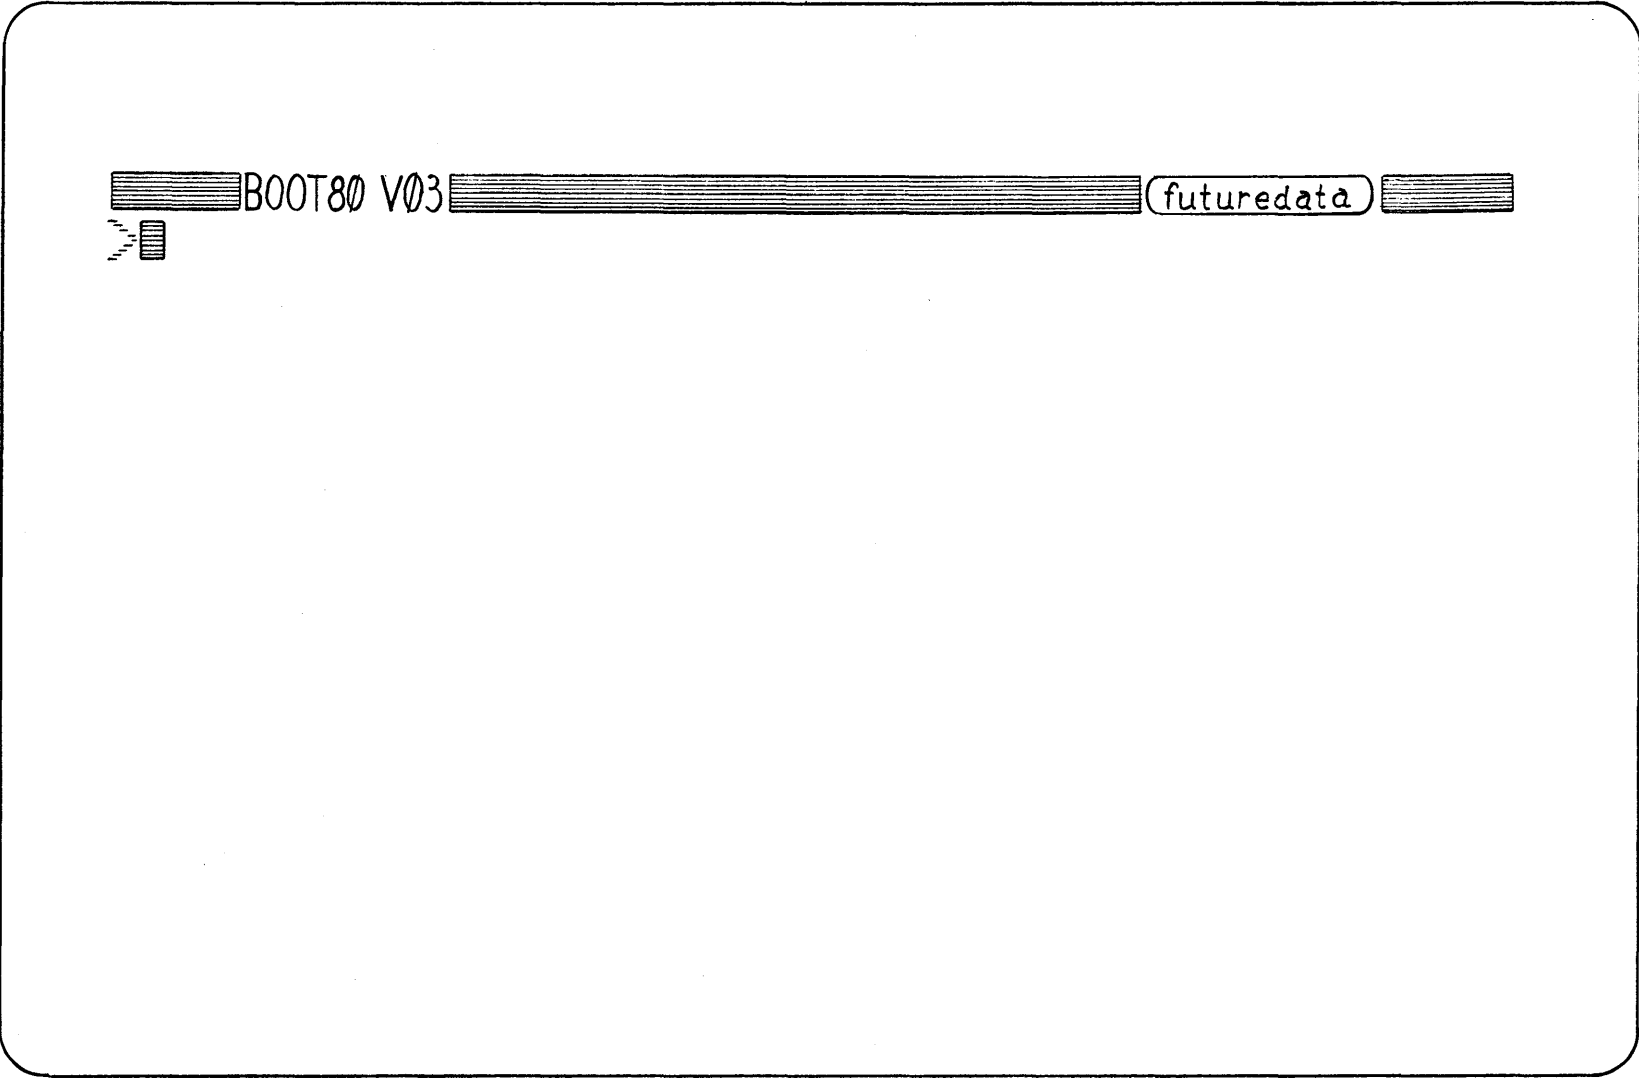

Figure 1-11. Boot Message
- (1) ON indicator
- (2) RUN indicator
- f. Check the CRT screen. Boot message, and blinking cursor must appear at the top of the screen. See Figure 1-11, Boot Message.